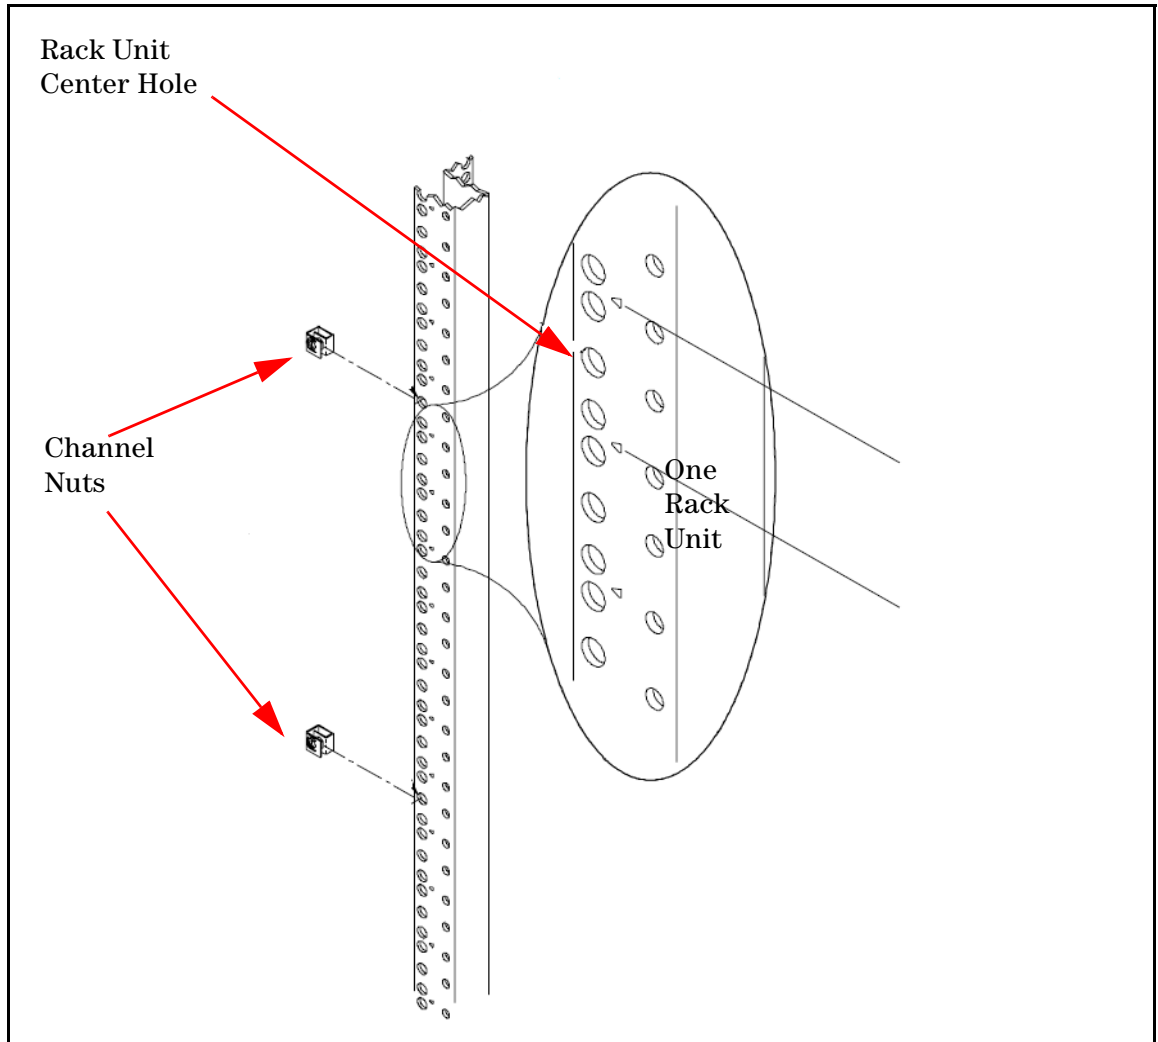

Figure 2 . Center Holes of EIA Rack, Attaching Channel Nuts
- Using the rack mount flanges as templates, position the flanges on the rack's vertical columns where the chassis is to be mounted. Align the adapter holes over the "center" holes of the EIA rack units. Slide channel nuts over the rack holes to be used by the rack mount flanges. See Figure 2.